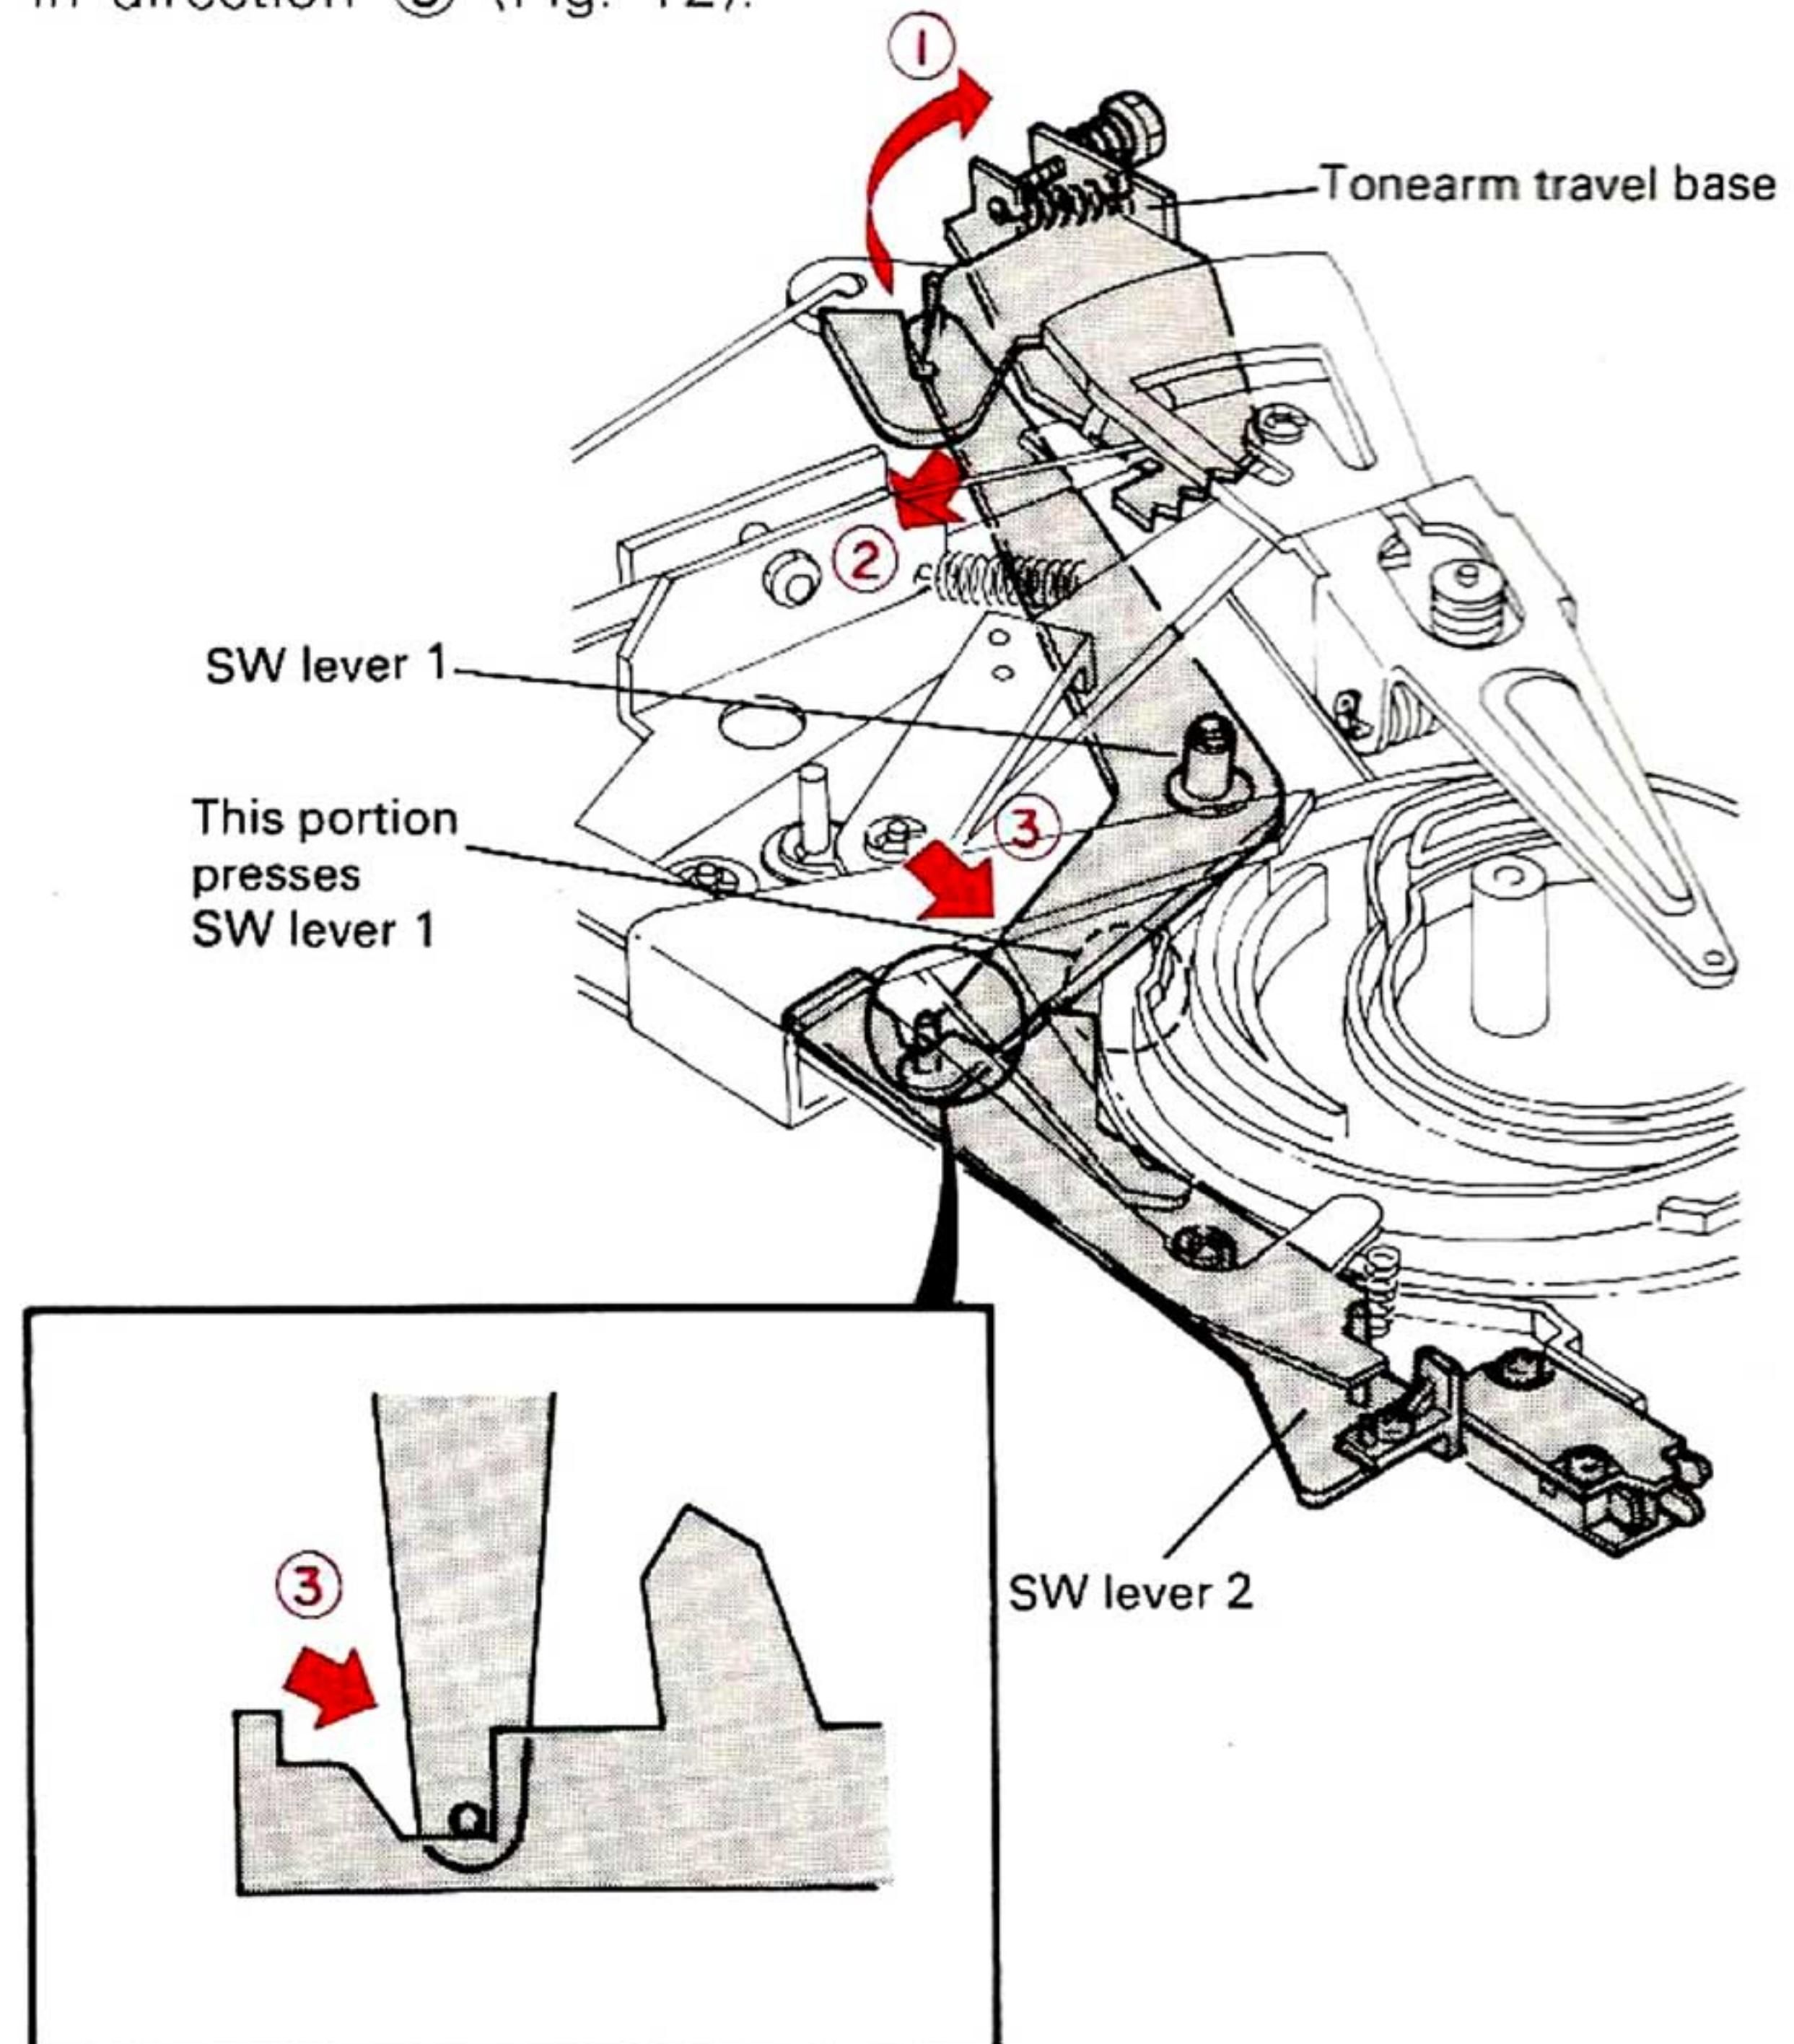
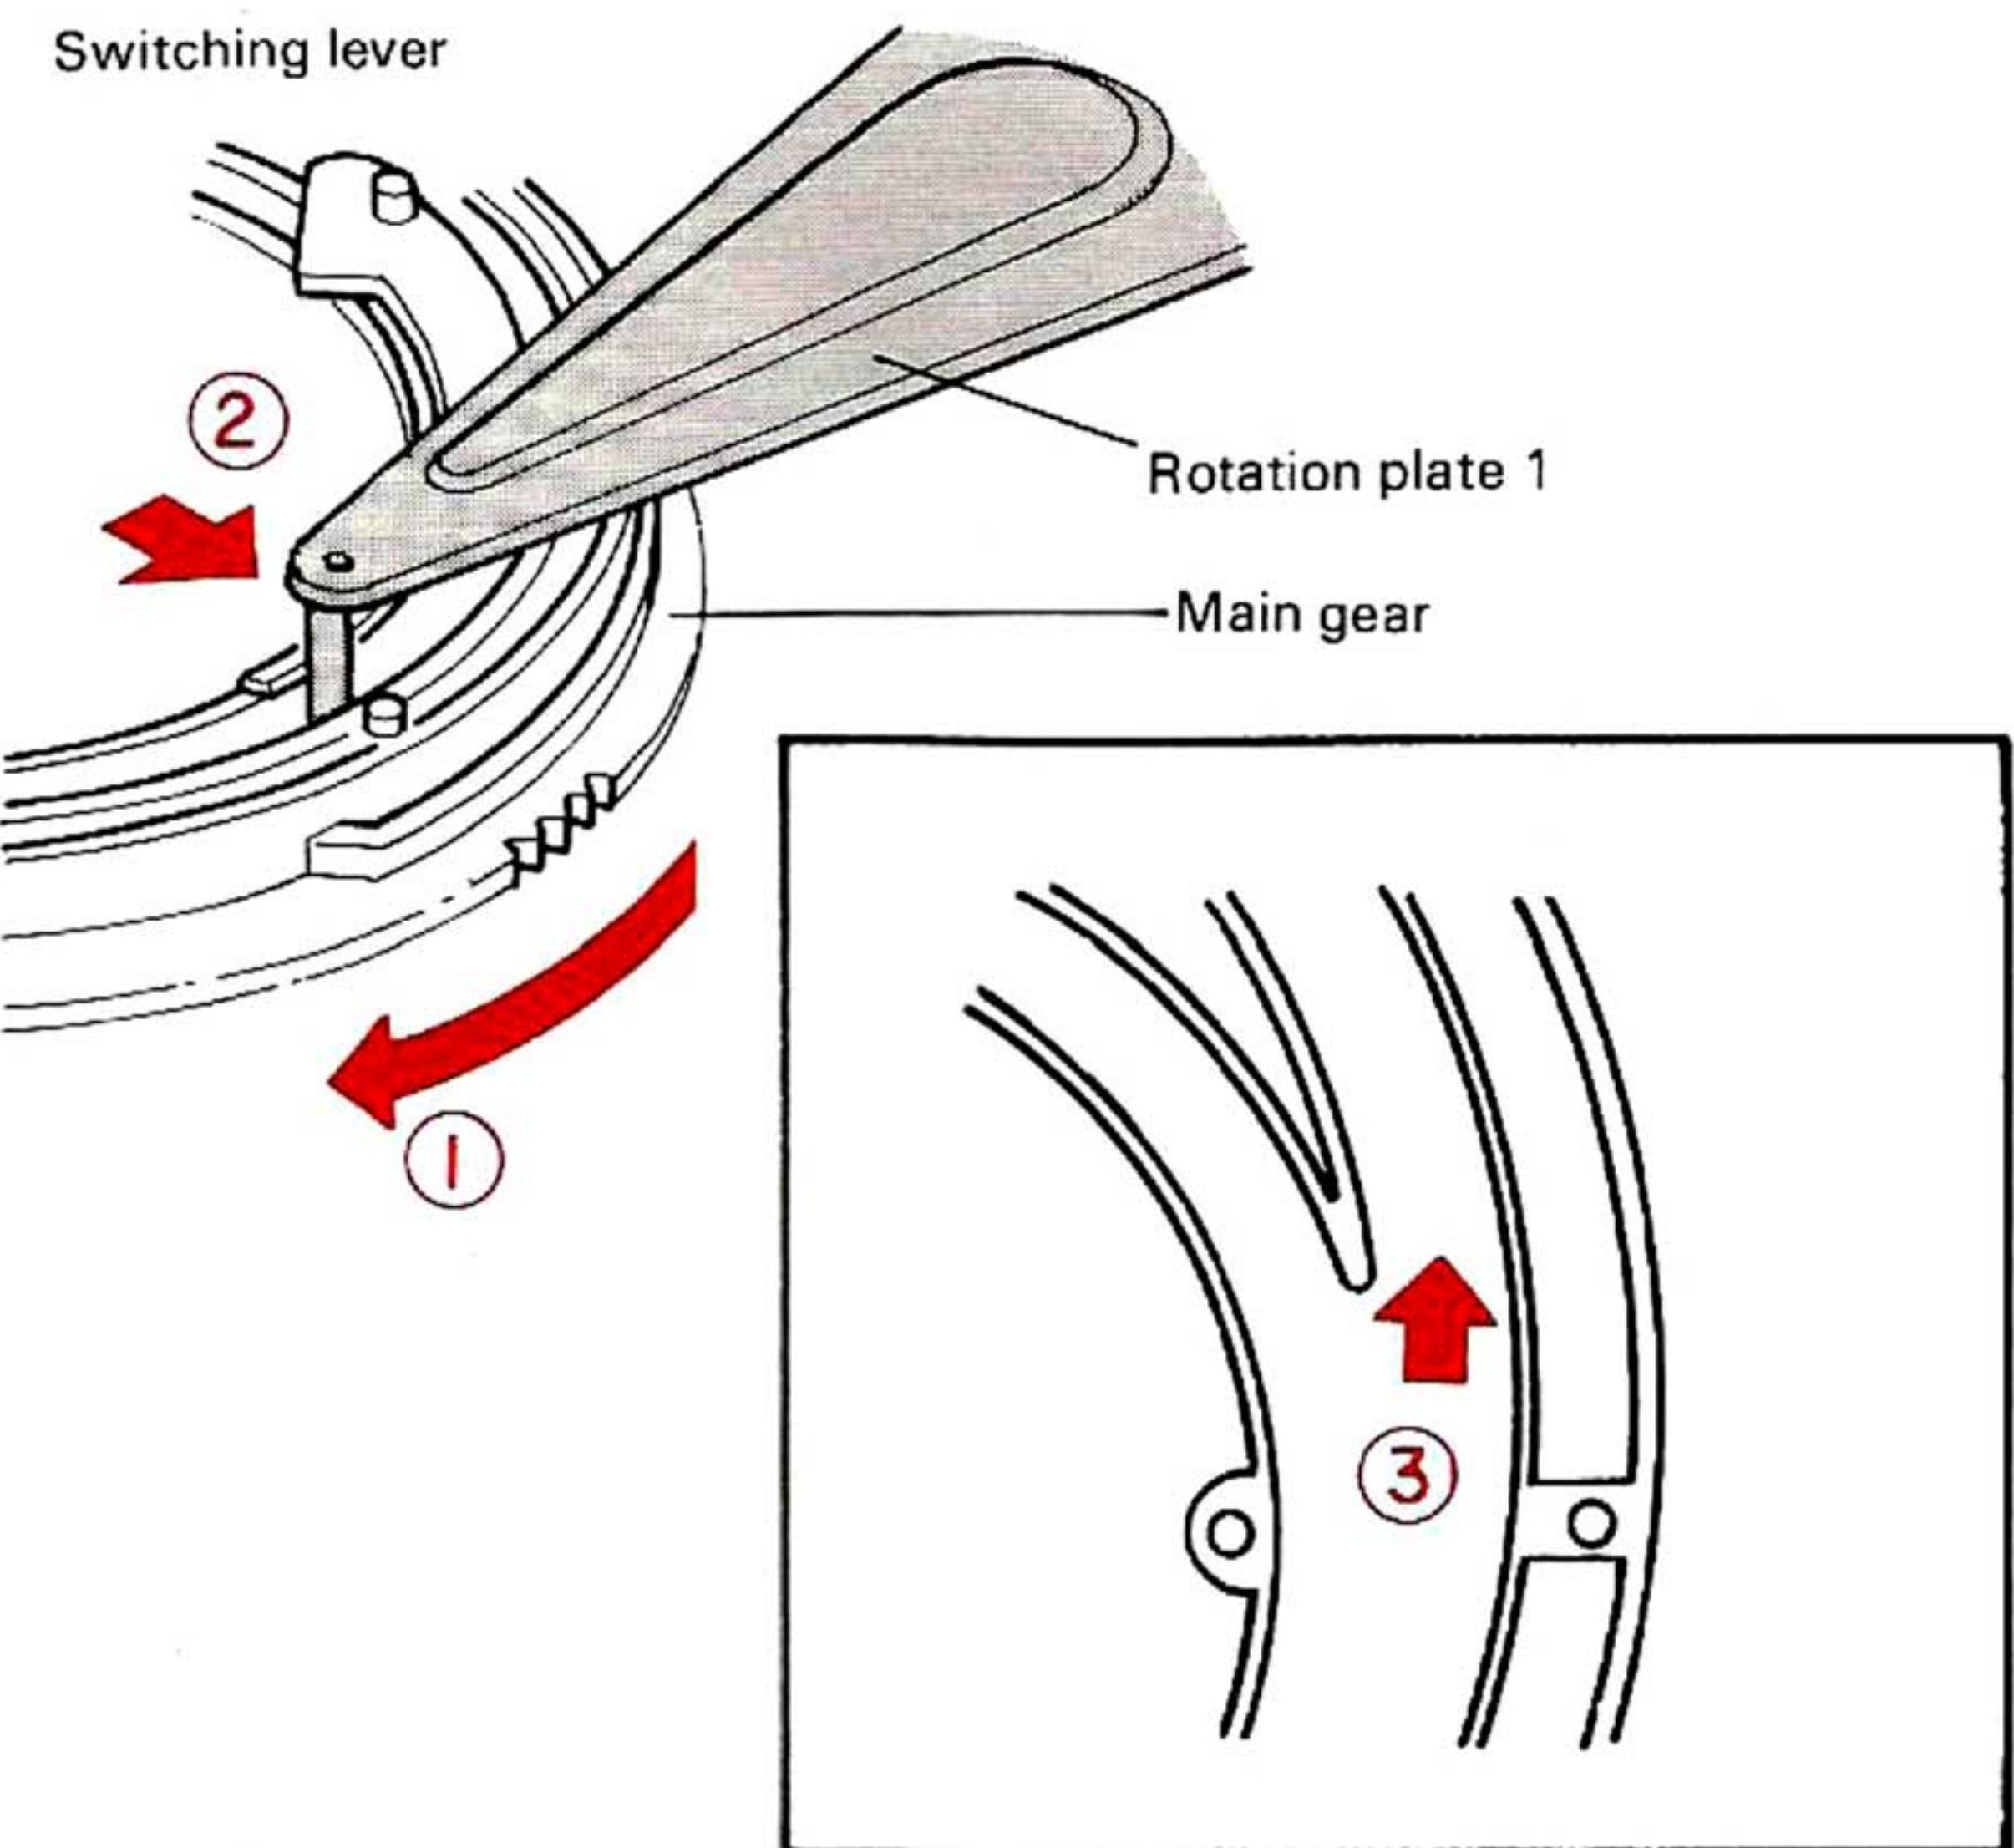

Fig. 13 Return of SW lever 1
Fig. 14 Switching lever in CUT mode
When the travel base moves in direction ①, SW lever 1 moves in directions ② and ③ to unlock SW lever 2 from SW lever 1. However, as SW lever 2 is pushed outward by the main gear, the sensitive switch is kept turned ON (Fig. 13). Rotation plate 1 goes along the outer groove of the main gear as it rotates. This operation differs from that in the PLAY mode. In the PLAY mode, as the repeat lever is coupled with the start lever, the switching lever enters the inner groove of the main gear. In the CUT mode, as the repeat lever does not move, the switching lever does not enter the inner groove (Fig. 14).